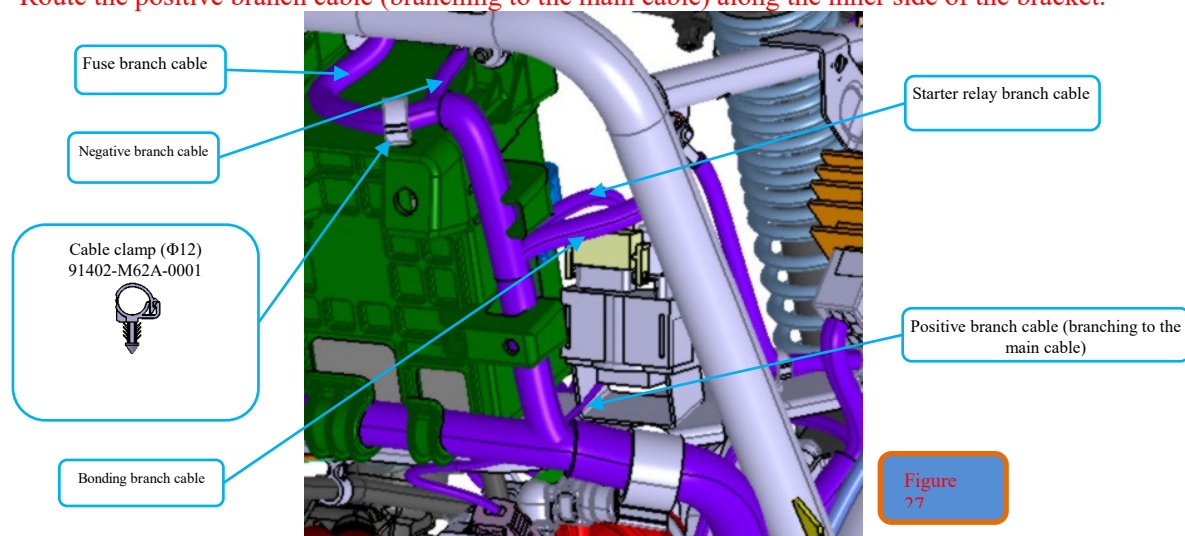
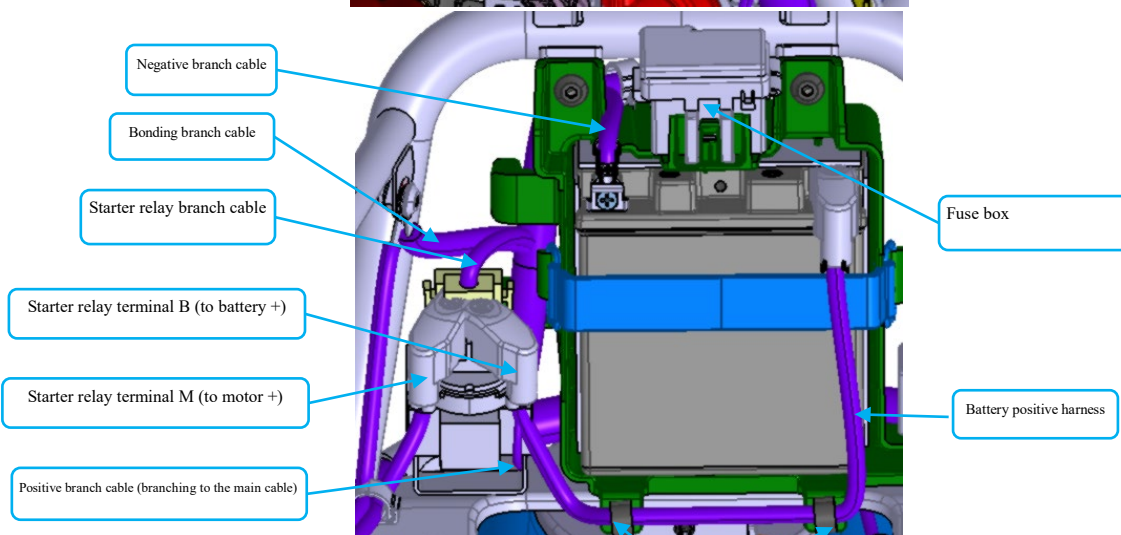

Figure 27
Figure 28
(4) Branch the negative branch cable, bonding branch cable, fuse branch cable, and starter relay main cable upward as shown in Figure 27. Route the harness according to the figure. Secure them with main cable clamp B (φ25) (34003-M61A-0000) and the battery box slot, and plug the fuse box into the battery box, as shown in Figure 28.
(5) Pass the positive branch cable through the starter relay and install it onto terminal B of the starter relay, as shown in Figures 27 and 28.
(6) Connect the battery positive harness to the battery positive terminal and starter relay terminal B respectively, and then secure them to the battery box with two cable clamps A (34003-M11A-0000), as shown in Figure 28.